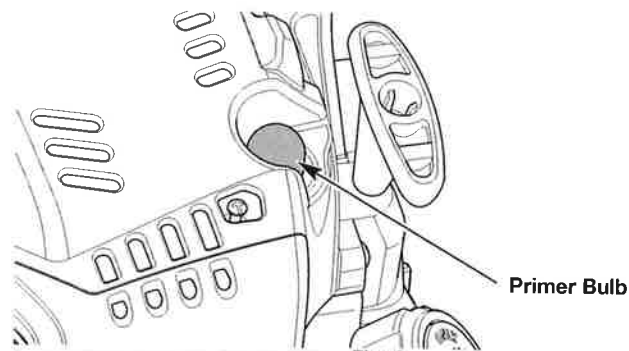

Fig. 9
3. Slowly press and release the primer bulb **10 times** (Fig. 9).